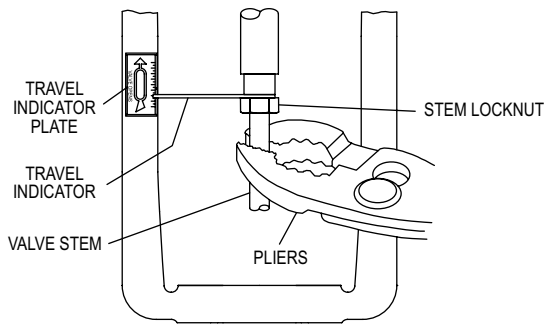

Figure 7: Adjusting Valve Plug Travel
4. Loosen stem locknut, Figure 7. Grip valve stem near threads, and turn stem to move valve plug the distance measured in Step 2.
3. Loosen stem locknut, Figure 7. Grip valve stem near threads, and turn stem to move valve plug the distance measured in Step 2.